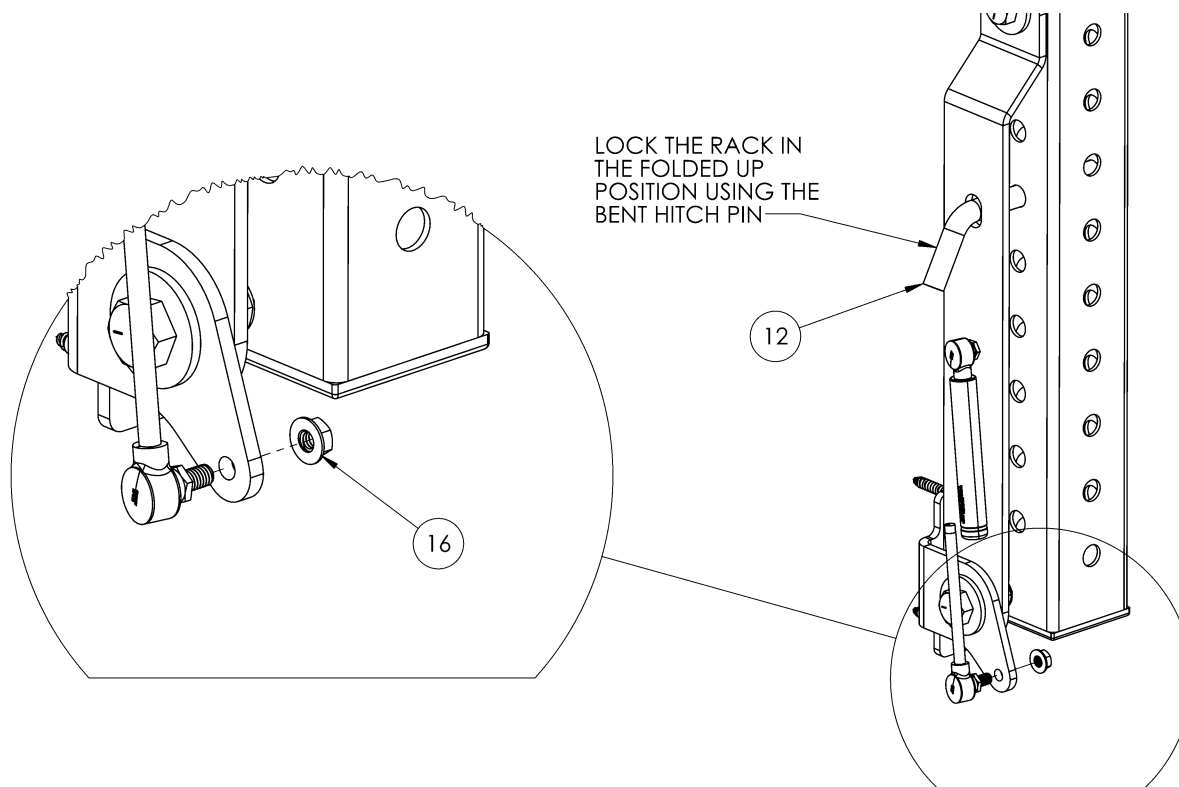

Figure 10: Attaching the Gas Shocks
2. Use the included Bent Hitch Pin (12) to lock the rack in the stored position (**Figure 10**).
4. Using a 1/2" open-ended wrench to keep the stud from spinning, use the 1/2" wrench to install the flange nut (16) and tighten (**Figure 10**).